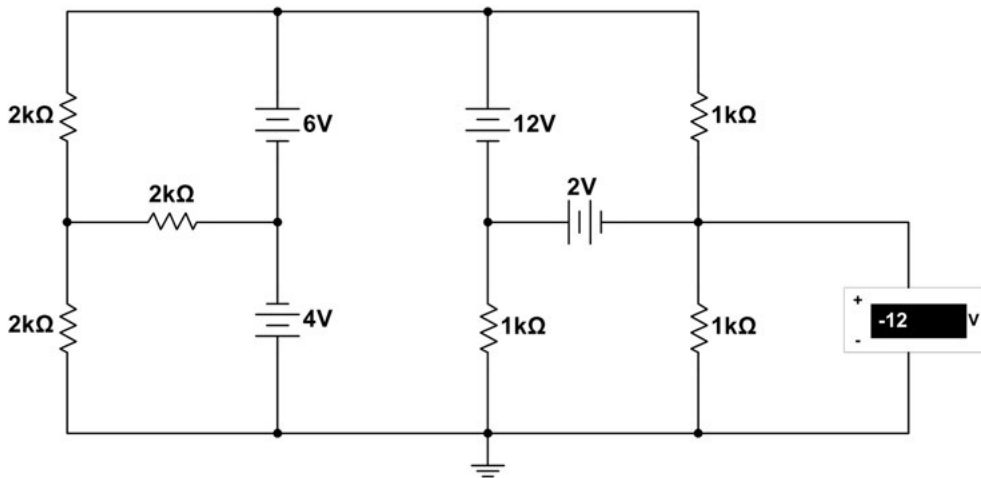

Figure 2.2: Lab 2 pre-lab circuit 2.
2. Use Multisim to draw the schematic shown in Figure 2.2. When you simulate the circuit, -12 V should appear on the voltmeter. Print out your drawing to turn in with this lab.